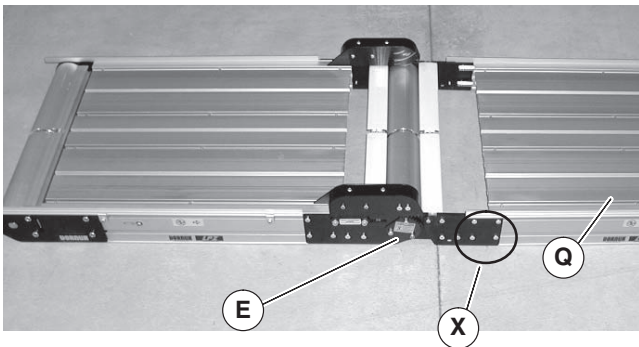

Figure 8
- Slide frame (Figure 8, item Q) into lower knuckle (E). Tighten screws (X) to 60 in-lb (7 N-m) on both sides of conveyor.